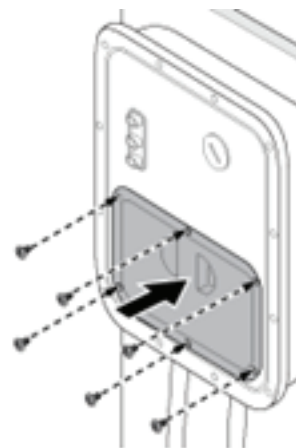

Figure 4-7.
10. See Figure 4-7. Replace the compartment cover and torque to 8.7 lb•in (1.0 N•m).